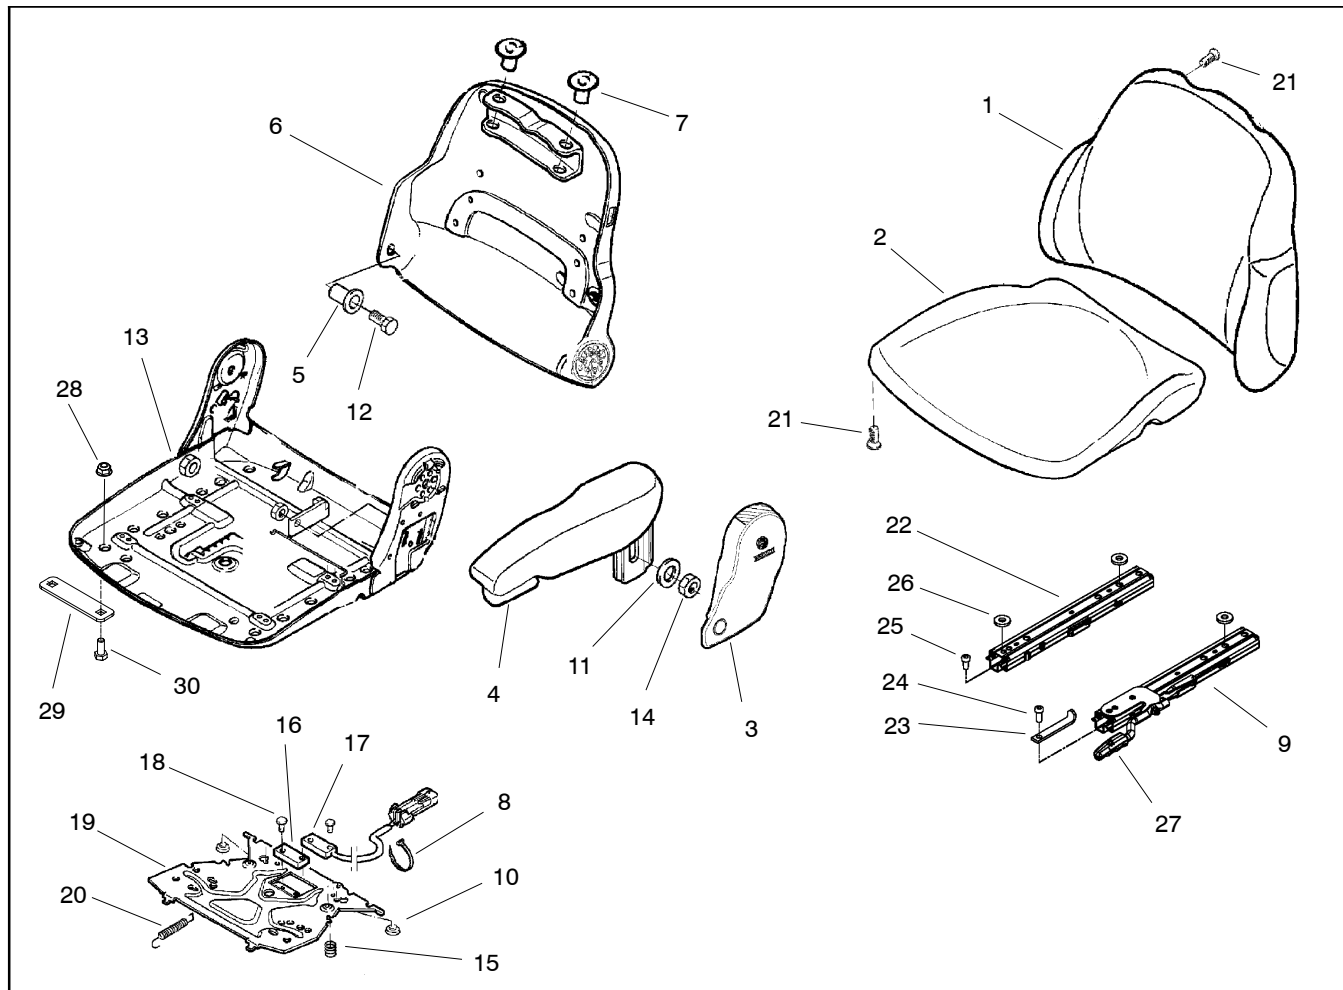

Figure 27
Disassembly (Fig. 27)
1. Disassemble operator seat as necessary using Figures 27 and 28 as guides.
Assembly (Fig. 27)
1. Assemble operator seat using Figures 27 and 28 as guides.